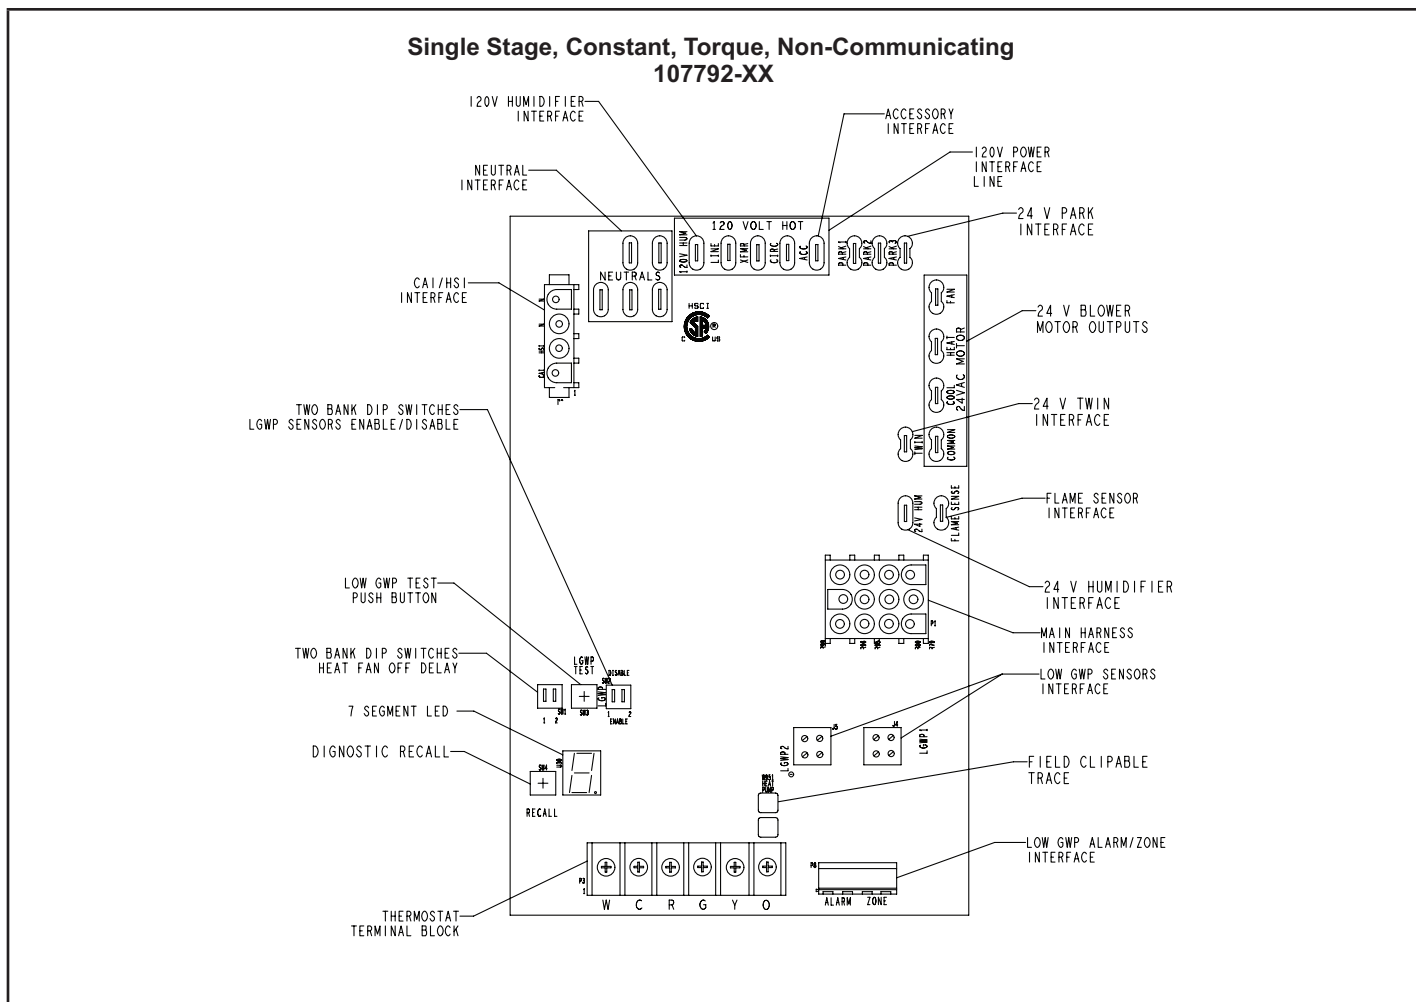

FIGURE 3
4. Ignition Control 107792-XX (FIGURE 3)
One line voltage "HUM" 1/4" spade terminal is provided on the furnace integrated control. See FIGURE 3 for integrated control configuration. This terminal is energized in the heating mode when the combustion air inducer is operating. Any humidifier rated up to one amp can be connected to this terminal with the neutral leg of the circuit being connected to one of the provided neutral terminals. If a humidifier rated at greater than one amp is connected to this terminal, it is necessary to use an external relay.
ON BOARD LINKS (FIGURE 4 and FIGURE 5) and DIAGNOSTIC PUSH BUTTON (FIGURE 3)
The hot surface ignition control system consisting of an integrated control (FIGURE 3 with control terminal designations in TABLE 1, TABLE 2, TABLE 3, sensor and ignitor. The integrated control and ignitor work in combination to ensure furnace ignition and ignitor durability. The integrated control, controls all major furnace operations. The integrated control also features a RED LED for troubleshooting and two accessory terminals rated at (1) one amp. See TABLE 4 for troubleshooting diagnostic codes. The nitride ignitor is made from a non-porous, high strength proprietary ceramic material that provides long life and trouble free maintenance.